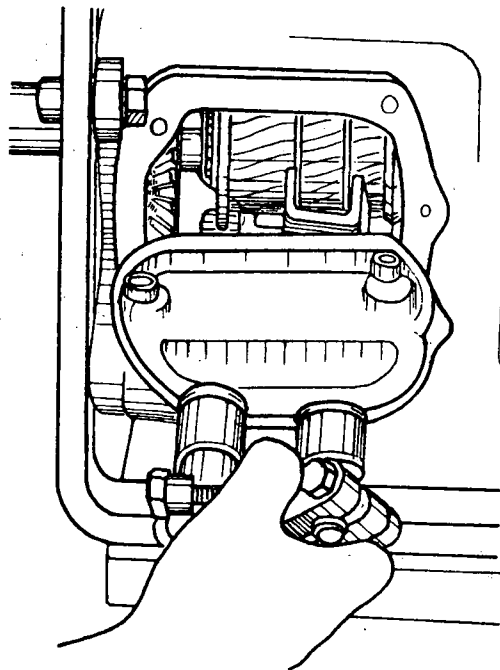

Fig. 1
- a) Remove the securing bolts from the cover and remove it from its position (fig. 1).